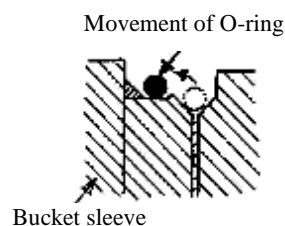

Fig.2-48
- b) Side O-ring out as shown in Fig. 2-48.